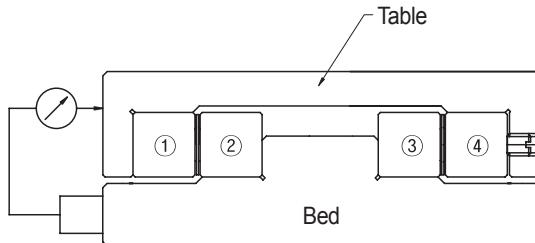

Fig 4. Installation Method
- 1) Press rails ① , ② & ③ firmly against the bed and the table, while correctly positioning the mounting surfaces.Firmly tighten the rail-mounting bolts.
- 2) Temporarily fasten rail ④ to the table and make a sure some space for inserting Roller Cage from the rail ends.
- 3) Position a dial gauge as shown in Fig. 4. While gently pressing the table, tighten Adjust Bolt uniformly until there is no slack.Then, attach stoppers to the rail ends, and set the dial gauge to zero.
- 5) Slide the table from the right and left and complete the installation by mounting the remaining A djust Bolt(ⓐ, ⓑ in Fig.4) and the Tightened Bolt. at this displacement in the dial pre-load amount.Tighten the mounting bolts at the adjusted positions securely.move the table to the side, finish the installation as tightening the remaining adjustment bolts ⓒ, ⓑ in the same way.